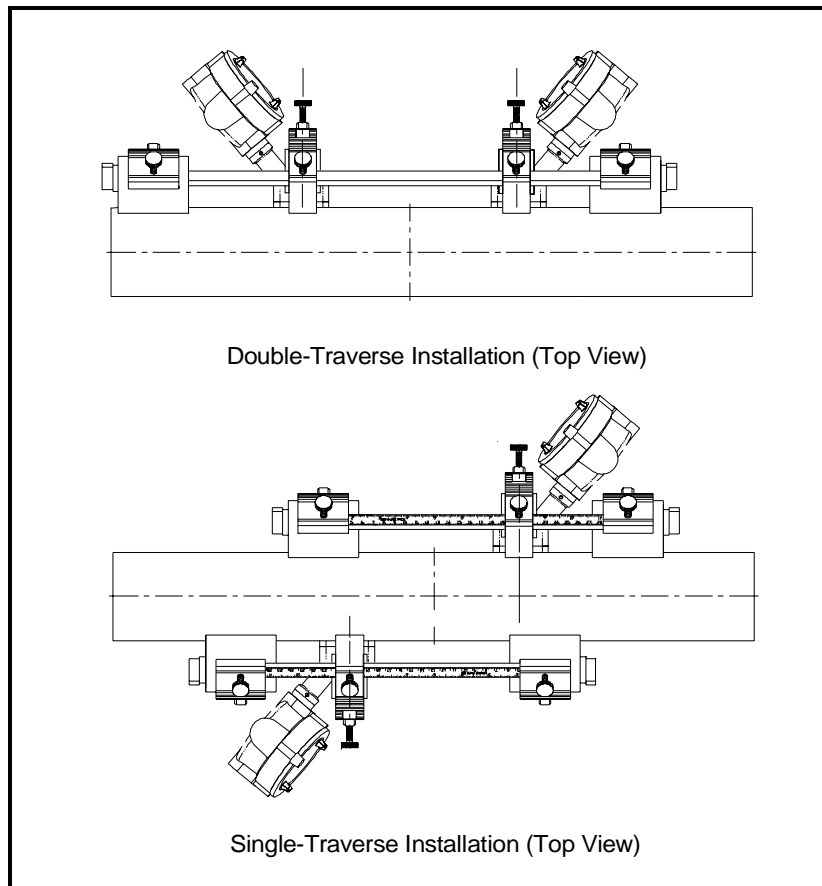

Figure 12: Completed MCF Installations with Transducers
7. Repeat Steps 1 to 6 to mount the other transducer in the remaining block. See Figure 12 on the next page for completed installations.